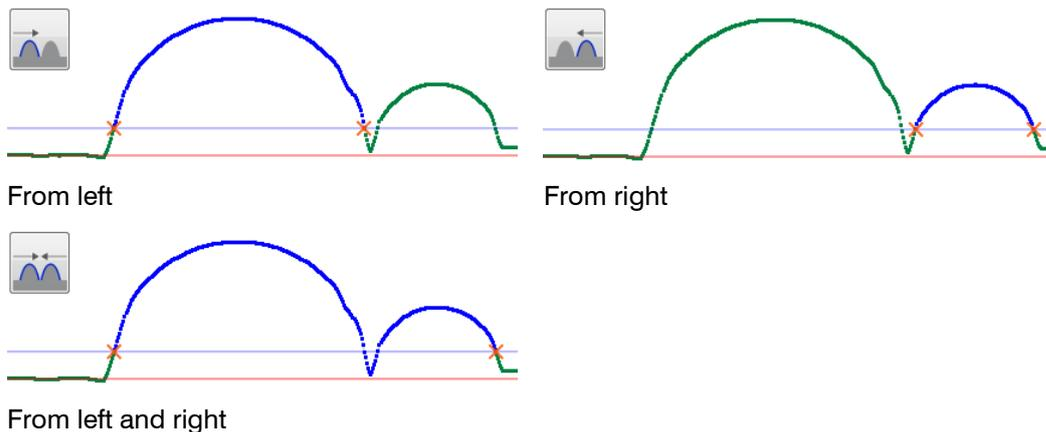

Fig. 4.26: Algorithms for the search direction
- Define the search direction for the detection of the heightening (see Fig. 4.26):
- Define the search direction for the detection of the heightening (see Fig. 4.26 Chapter 4.5.1):